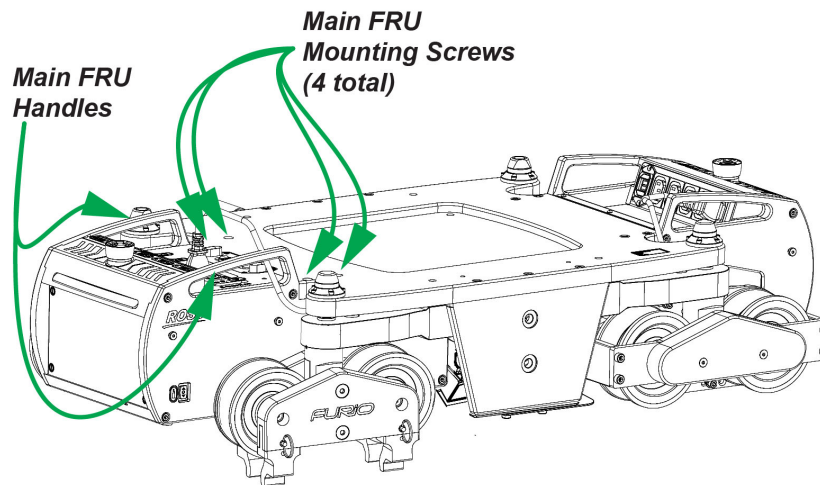

Figure 27 - Furio SE Dolly Base, showing Four Mounting Screws that Secure the Main FRU
2. Insert and tighten the four mounting screws you removed using a 5 mm hexagonal wrench, as shown in **Figure 27**.